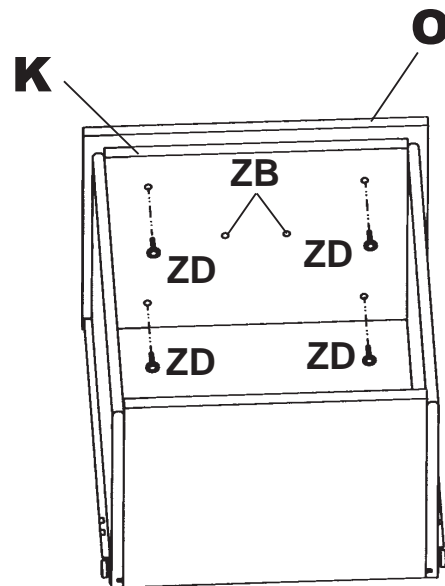

FIG. 11A
11) Install the drawer in the unit. Make sure that the Cup Pull (ZC) is loose enough to allow the Drawer Face to move freely on the drawer false front. Adjust the drawer Face (O) on the Drawer False Front (K) so that it is centered.
Tighten the Screws (ZB) on the Cup Pull (ZC) to help eliminate any shifting of the face. Insert four #8x7/8" LoProfile Screws (ZD) through the holes in the Drawer False Front (K) and fasten securely. See FIGURE 11A.